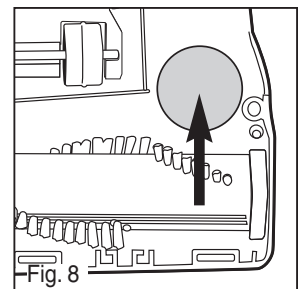

Fig. 8
- 2) Use finger to clear blockage from base (Fig. 8). Replace base plate and 3 screws.